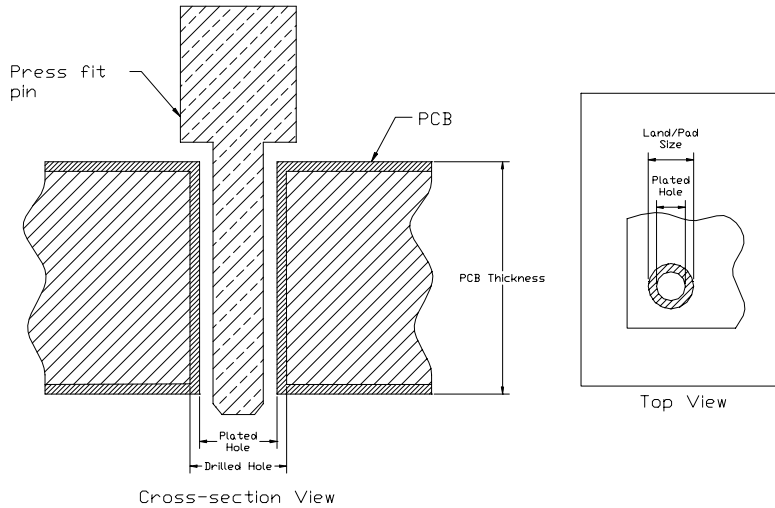

Figure 5 - Important features of PCB design for Metral™ Connectors.
- Figure 5 shows the important features of the PCB.